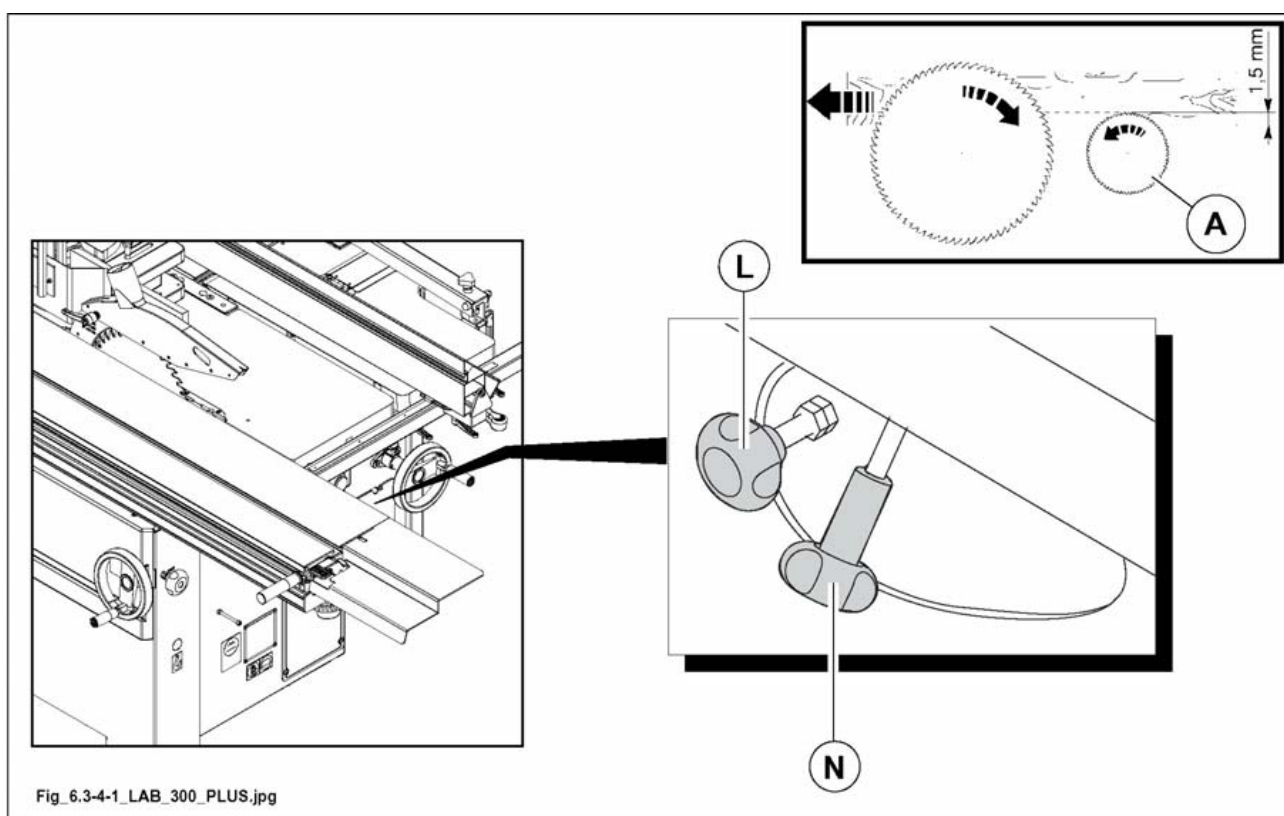

Fig. 6.3-4-1
for cutting panels coated with finishing material you have to use the scorer (A fig. 6.3-4-1).
- adjust scoring saw height using the knob (L fig. 6.3-4-1).
- Regulate the alignment of the scoring unit with the saw by turning the knob (N fig. 6.3-4-1).